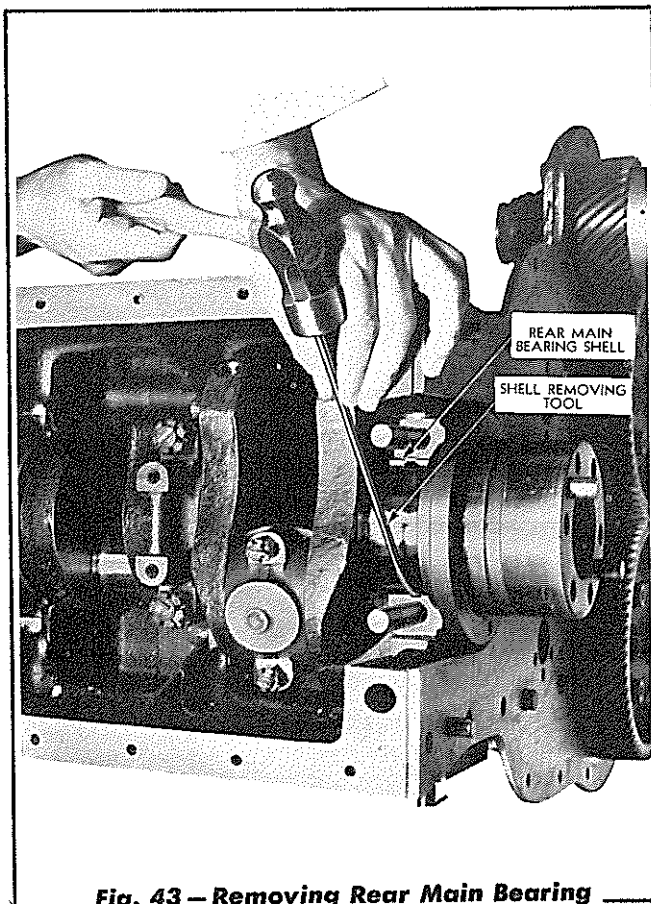

Fig. 43 — Removing Rear Main Bearing Upper Shell
- b. The upper half of the rear main bearing shell must be rolled out of place by driving on the edge of the bearing shell with a small curved rod, while revolving the crankshaft. Refer to Fig. 43.